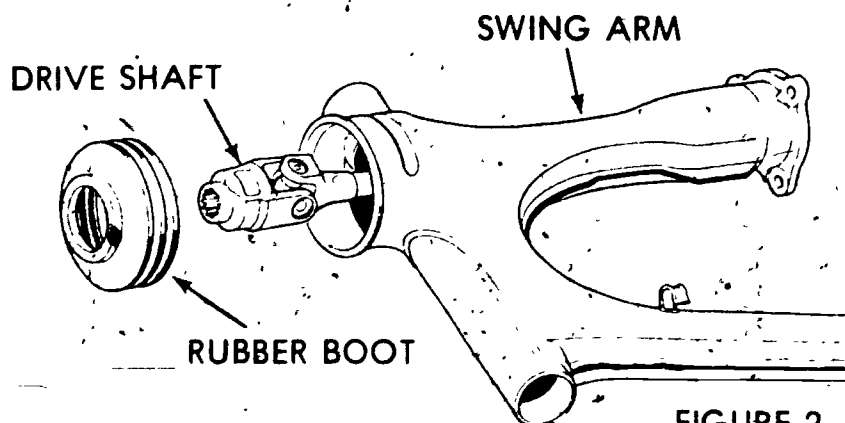

FIGURE 2
- J. Torque bolts in a criss-cross pattern with torque wrench to specifications in service manual (Figure 2)
- K. Inspect the splines of the drive shaft coupling and check the backlash (Figure 2).
- B. Install drive shaft into swing arm (Figure 2)